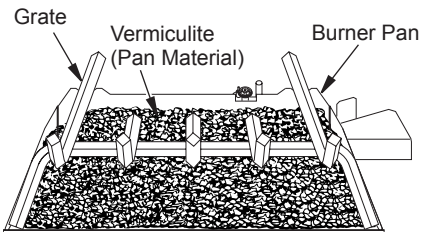

Figure 20 - Fill Entire Burner Pan with Vermiculite
1. Open bag(s) of vermiculite and fill entire burner pan until burner tube is completely covered (see Figure 20).